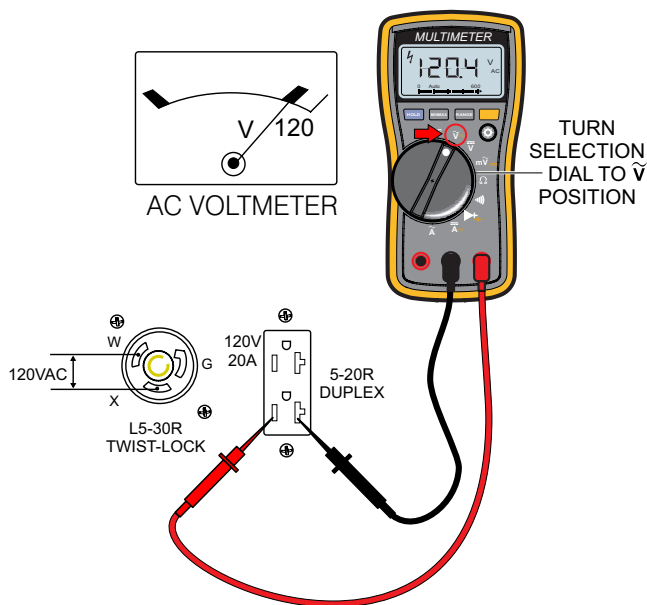

Figure 28. 120V Twist-Lock/GFCI Receptacles
14. Read voltmeter on front panel of generator (Figure 28) and verify that 120 VAC is displayed. Using an external voltmeter as shown in Figure 28, verify that 120 VAC is present at the 120V twist-lock and GFCI duplex receptacles.